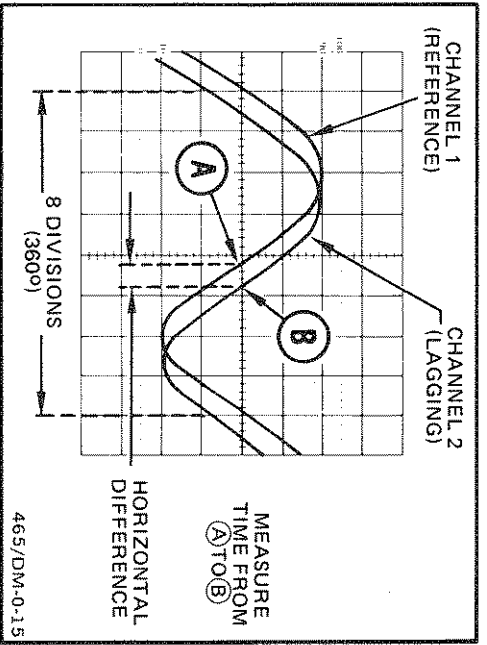

Figure 19. Phase difference.
9. Position the displays and adjust the TIME (PULL) VAR control so that one reference-signal cycle occupies exactly 8 horizontal graticule divisions at the 50% rise-time points (see Figure 19). Each division of the graticule now represents  $45^\circ$  of the cycle ( $360^\circ \div 8$  divisions), and the horizontal graticule calibration can be stated as  $45^\circ$  per division.
**EXAMPLE:** The horizontal difference is 0.6 division with a graticule calibration of  $45^\circ$  per division as shown in Figure 19.
shows the same signals illustrated in Figure 19, but magnifying the displays results in a horizontal difference of 6 divisions between the two signals.